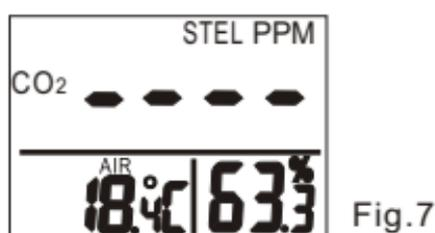

Fig.7
- 2.It takes at least 5 minutes to calculate the STEL and TWA value. The LCD shows "----" (Fig.7) during the first 5 minutes from power on.